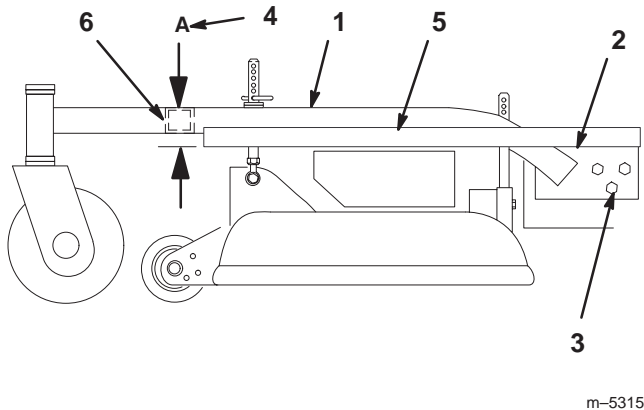

Figure 48
2. Place a long straight edge on top of the engine deck as shown in figure 48.
3. At the carrier frame cross tube, measure location **A** height (Fig. 48). This measurement must be 2–13/16 in. (71 mm), plus or minus 1/4 in. (6 mm).
5. Loosen the carrier frame mounting bolts on both sides of the machine (Fig. 48).
6. Align the carrier frame and engine deck to match 2–13/16 in. (71 mm), plus or minus 1/4 in. (6 mm) at location **A** (Fig. 48).
7. Tighten the carrier frame mounting bolts on both sides of the machine (Fig. 48).